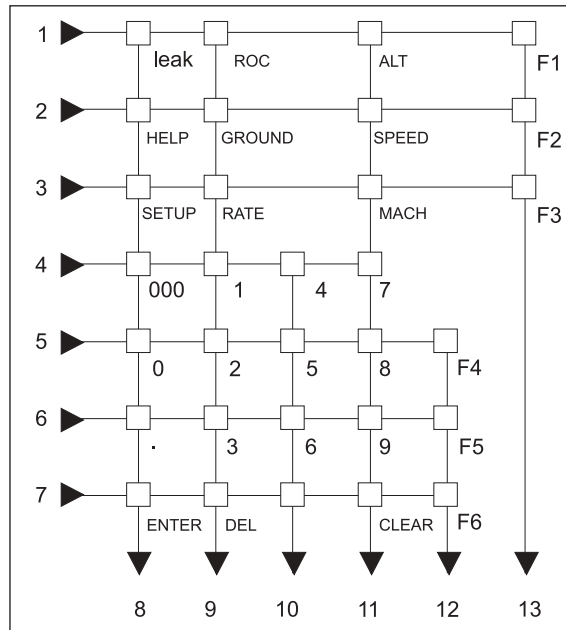

Figure 2-2 Key-pad Test Display
(5) Key-pad Testing (Figure 2-2)